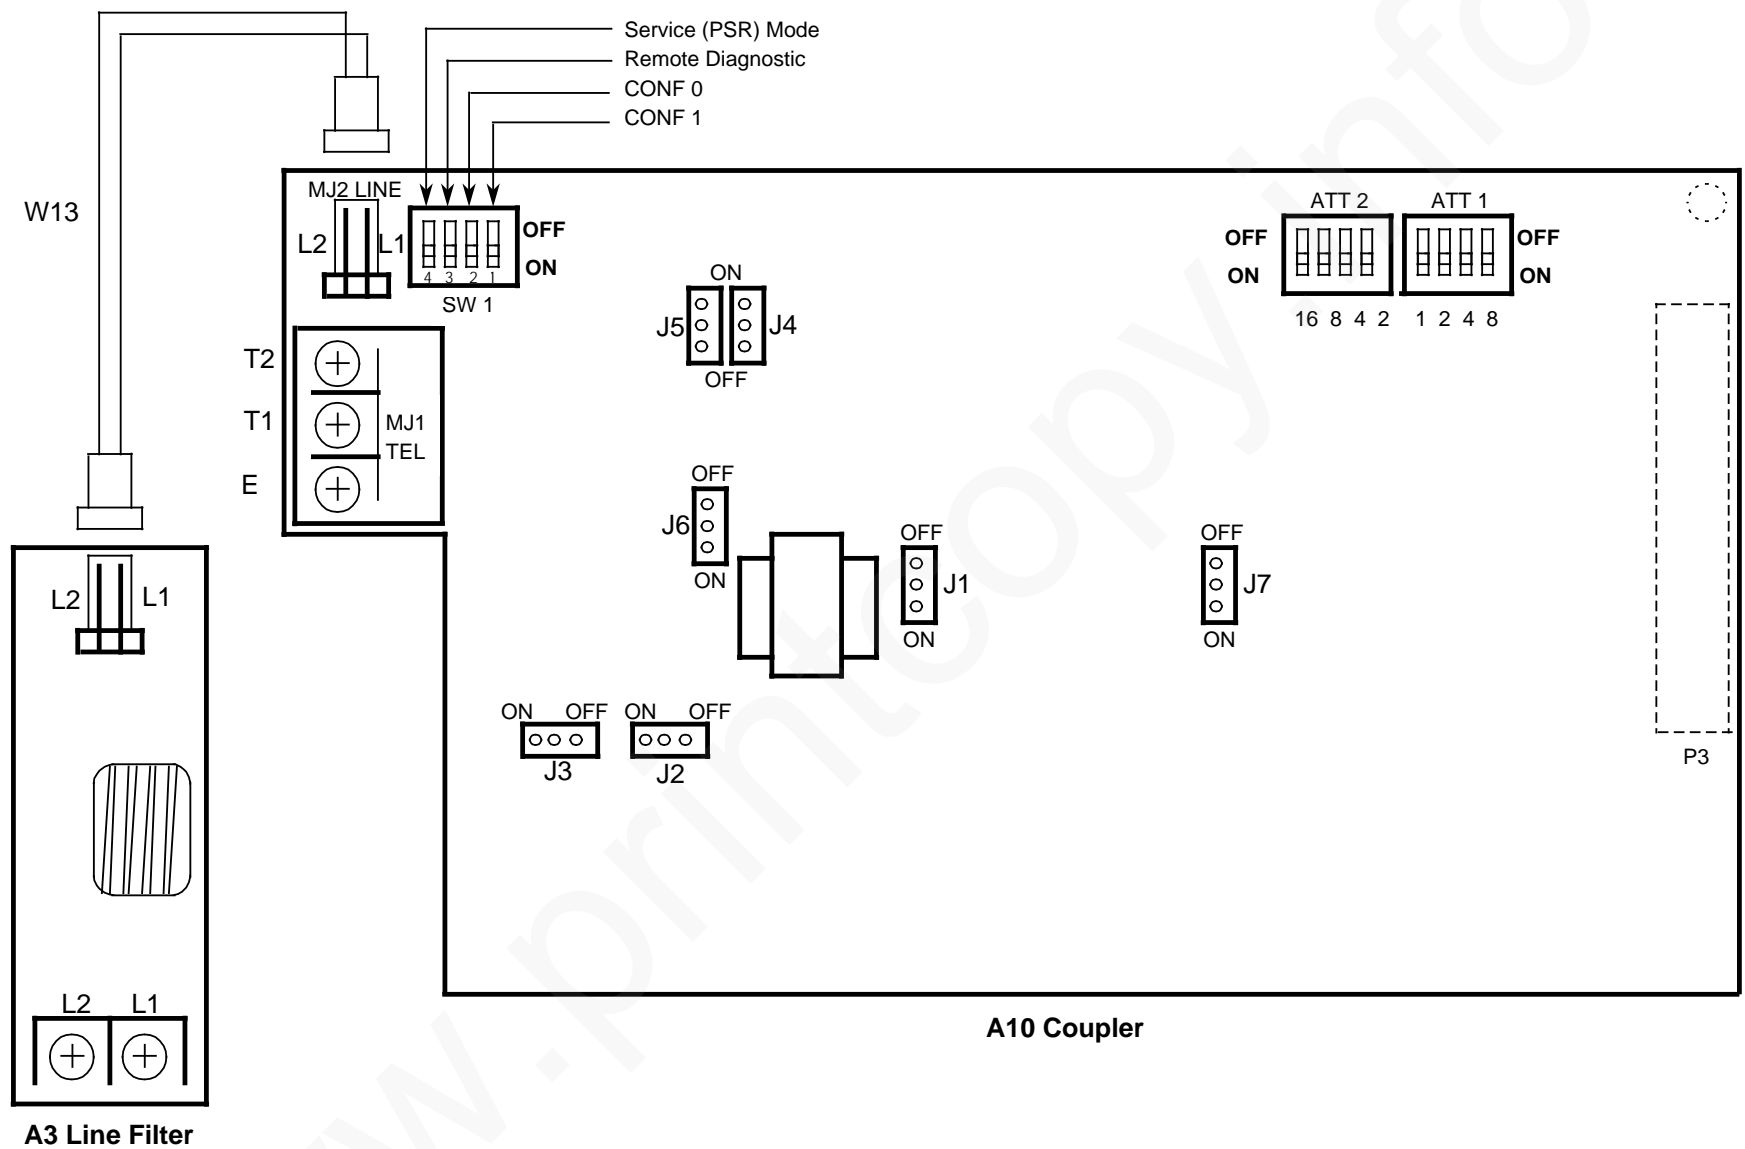

Figure 1 RX A10 Coupler and A3 Line Filter PWB
- a. Certain links depend upon local installation conditions. Refer to Table 2, for explanation. Move shorting links on the A10 Coupler PWB. Refer to Figure 1.
2. Connect data cable to the A10 Coupler PWB and telephone network. Refer to Figure 1.
The A10 Coupler PWB incorporates Coupler Switch SW 1. This switch contains the following bit switches (see Figure 1):